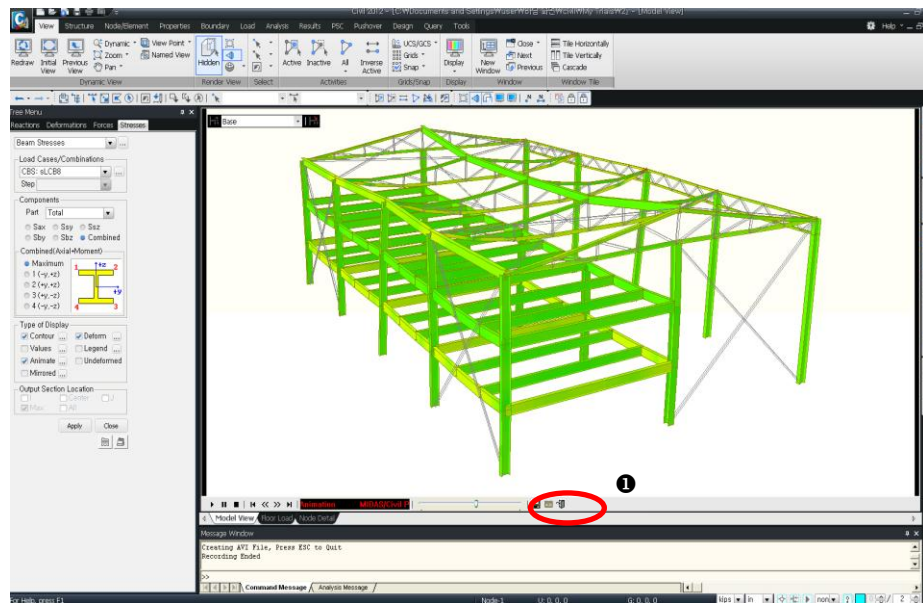

Figure 2.35 Animation Window
3. Click **Record** as shown in Fig.2.35–①.